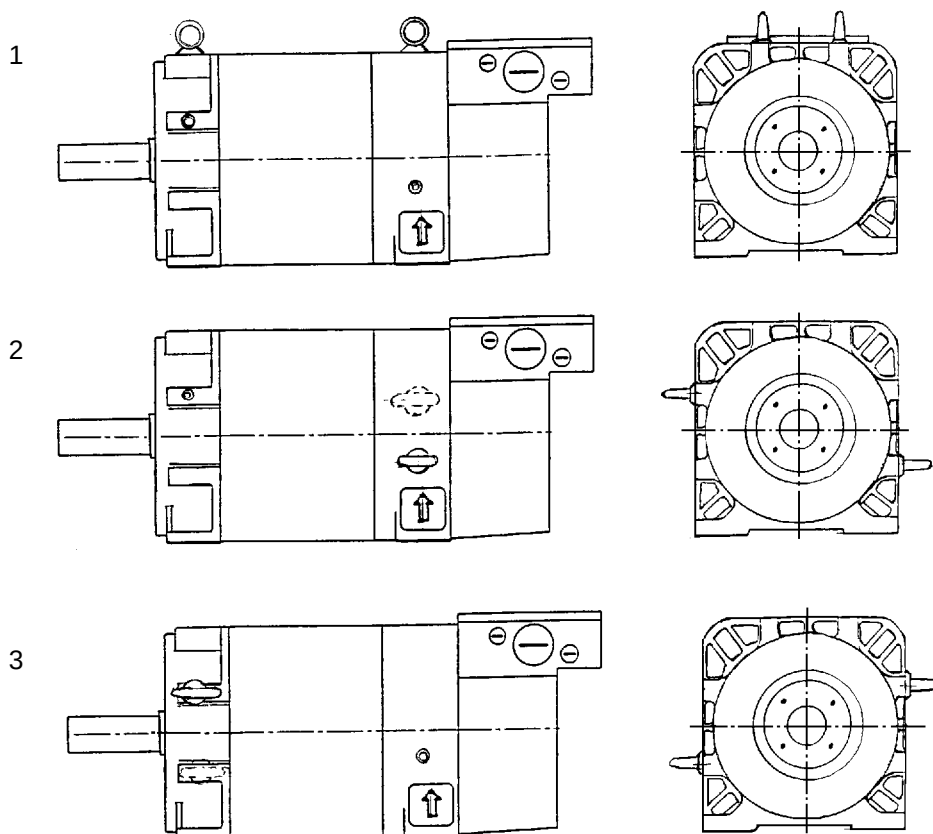

Fig. 3 Lifting eye arrangement
- If the lifting eye-bolts have been screwed in, they must either be tightened or removed after the motor has been installed! The lifting eye arrangement is shown in Fig. 3.